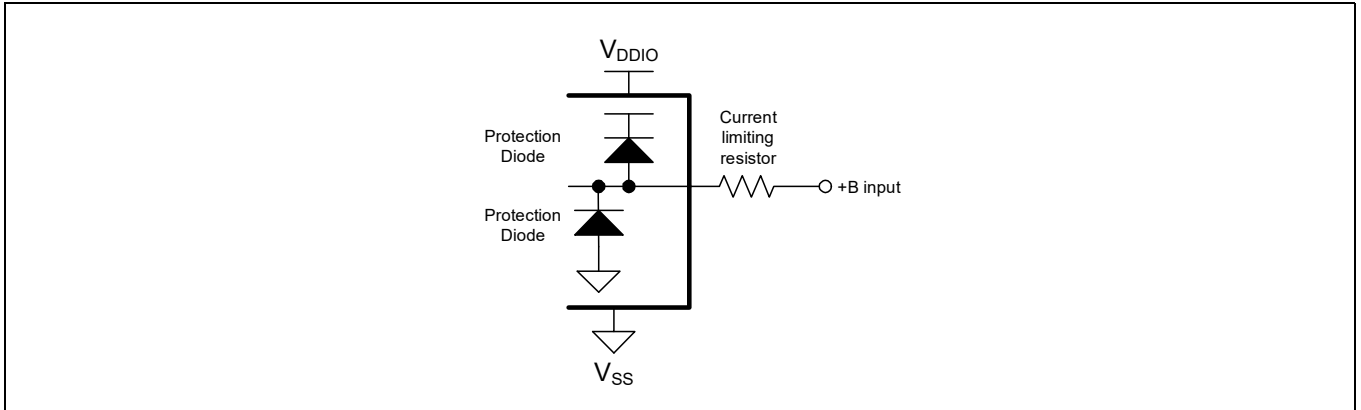

Figure 26-1 Example of a recommended circuit^[61]
47. A current-limiting resistor must be provided such that the current at the I/O pin does not exceed rated values at any time, including during power transients. Refer to **Figure 26-1** for more information on the recommended circuit.